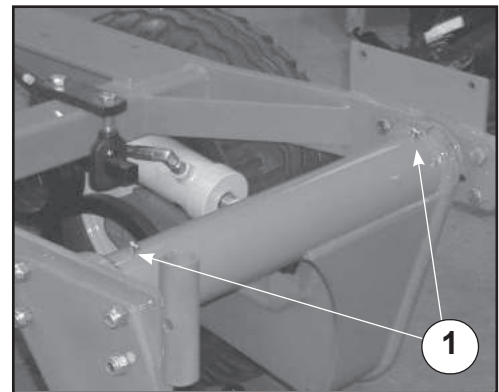

Fig 26
Wheel rocker pivots (4 per machine) must be greased regularly (weekly or after every 75Ha) to provide lubrication and flush out any dirt. Refer Fig 26 (1).